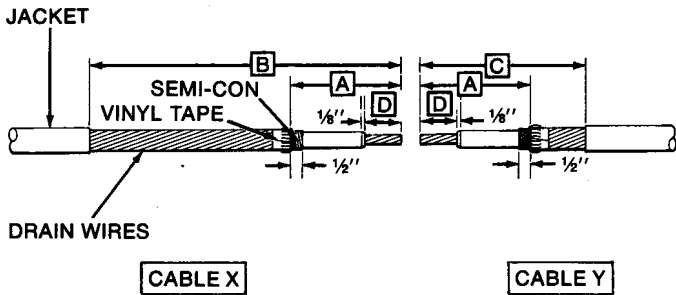

Figure 1
2. Remove jacket to distance B and C, for cables "X" and "Y" respectively (Figure 1, Table A).
3. Apply two wrap of vinyl tape at dimension A on both cables (Figure 1). Wires must remain uniformly spaced around cable between jacket and vinyl tape. Do not allow wire overlaps.
6. Remove insulation to dimension D (Figure 1) and taper edges 1/8" at approximately 45°.